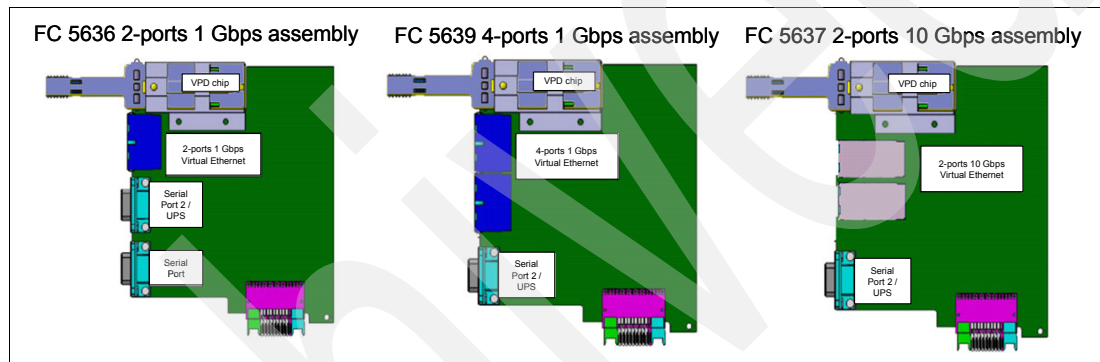
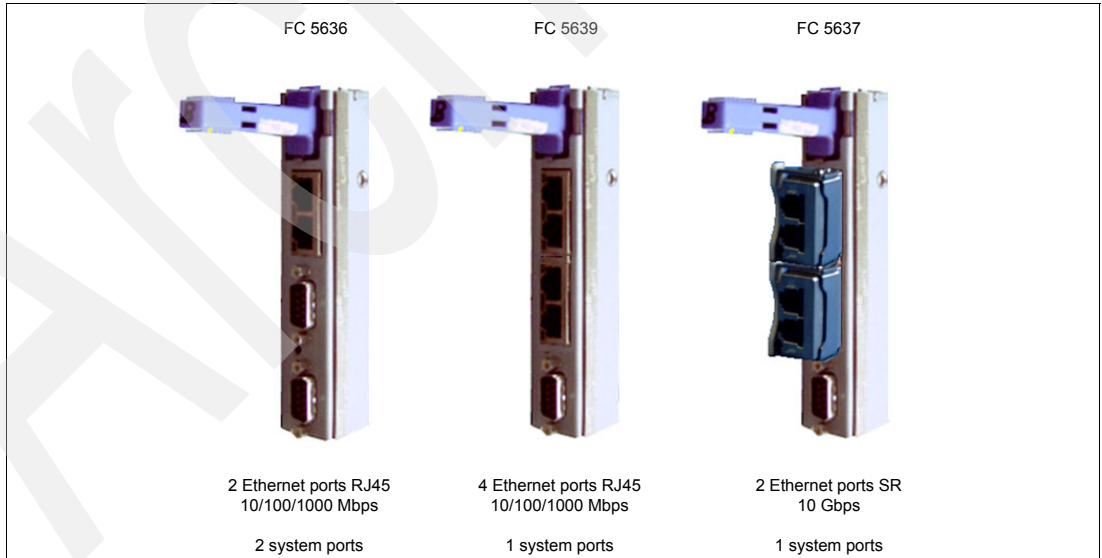

Figure 1-3 Integrated Virtual Ethernet feature codes and assemblies
Figure 1-5 IVE physical port connectors according to IVE feature codes
- ▶ Every logical port has a unique MAC address, and they are all stored in the VPD chip that is located on the IVE card (see Figure 1-3 on page 5 and Figure 1-5 on page 6).
Figure 1-3 shows the major components of the Integrated Virtual Ethernet adapter hardware and additional system ports, according to the different feature codes.
All the IVE feature codes have different connectivity options and different cable support (Figure 1-5).